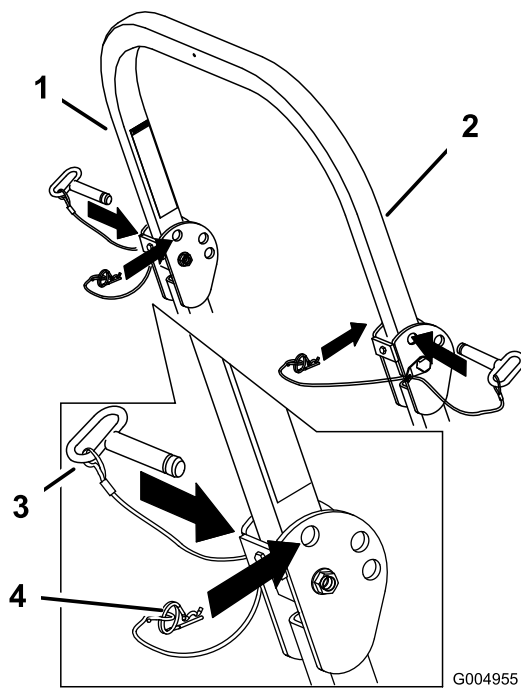

Figure 9
1. Remove the hairpin cotter pins and remove the 2 pins (Figure 9).
3. Install the 2 pins and secure them with the hairpin cotter pins (Figure 9).
4. To raise the roll bar, remove the hairpin cotter pin and remove the 2 pins (Figure 9).
5. Raise the roll bar to the upright position and install the 2 pins and secure them with the hairpin cotter pins (Figure 9).